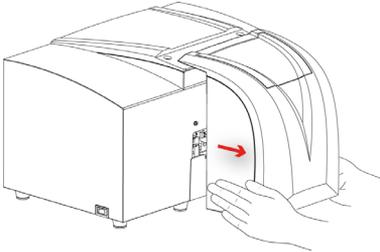

Figure 40: Opening the Front Cover
2. Open the instrument's front cover by pulling with both hands on both sides of the white part so that the front cover disengages and swings open to the right (Figure 40).